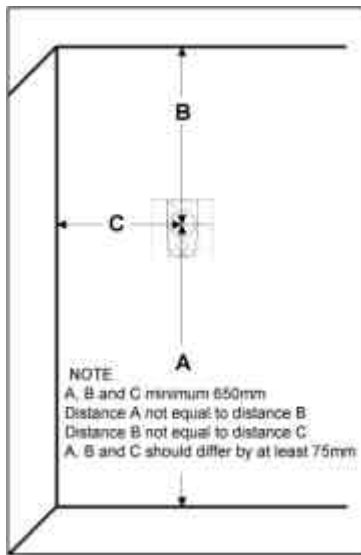

Figure 1
- Try to position the loudspeakers at least 650mm away from any adjacent wall, ceiling or large equipment cabinet and always install the cabinet so that the distances A, B and C differ by at least 75mm. See figure 1.